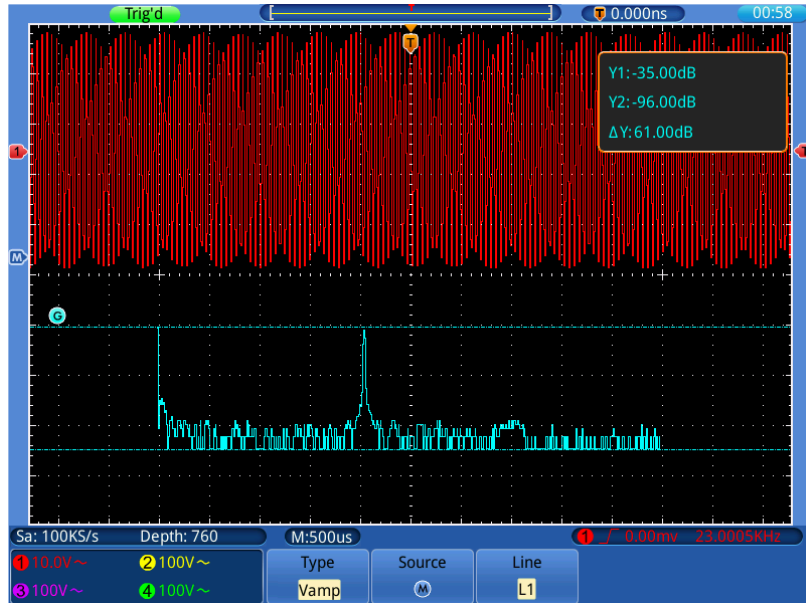

Figure 5-12 Wave of Vamp cursor measurement
4. Select **Line** in the bottom menu; select **L1** in the right menu. The G icon will appear beside the dotted line of L1, represents you can turn the **G** knob to adjust the position of L1. Select **L2** to adjust the position of L2. Select **L1&L2** to adjust the two cursors together. The cursor measure window at the top right shows the present position of two cursors and the absolute value of amplitude difference (see *Figure 5-12*).